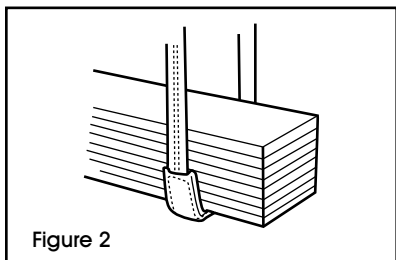

Figure 2
- Slings shall be padded or protected from the sharp edges of their loads. (See Figure 2)